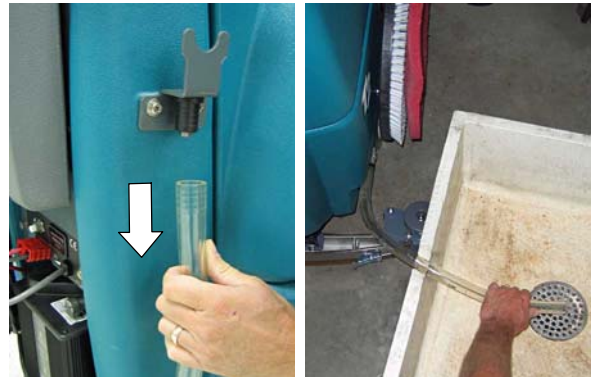

FIG. 37
4. Drain the solution tank (Figure 37)